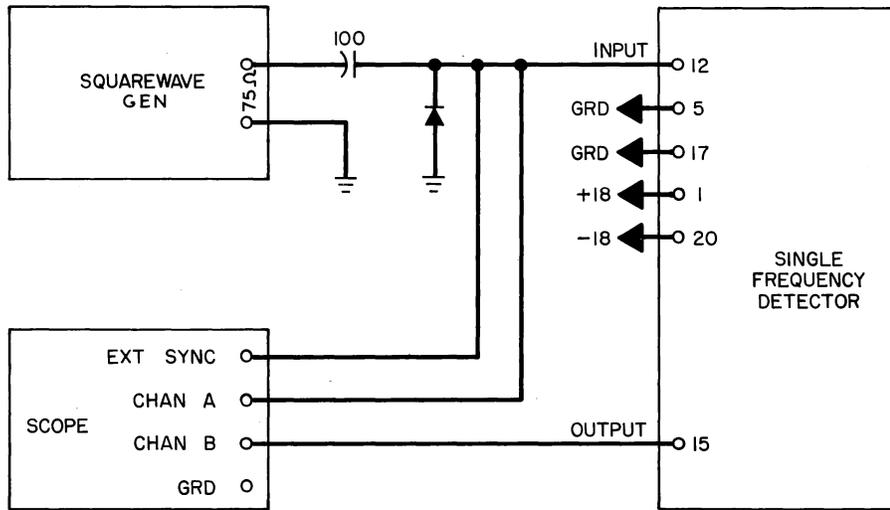
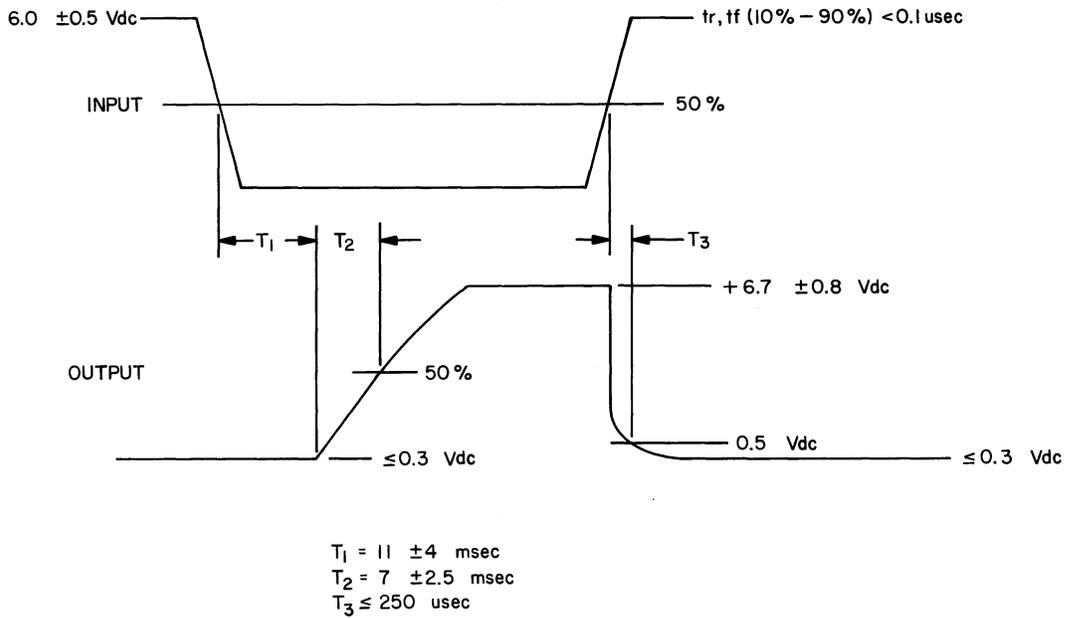

Fig. 13 - (Single Frequency Detector Test)
Fig. 14 - (Single Frequency Detector Test)
(1) Connect the circuit as in the suggested test circuit shown in Fig. 13. Connect $+18.0 \pm 0.5$ volts dc to terminal 1, -18.0 ± 0.5 volts dc to terminal 20, and ground to terminals 5 and 17.
(2) Set the frequency of the square-wave generator to 5 ± 0.5 cps.
(3) The input wave form shall be as specified in Fig. 14.
(4) Set the scope EXT SYNC TRIGGER to the (-) negative position. The output wave form shall be as specified in Fig. 14.
(5) Set the scope EXT SYNC TRIGGER to the (+) positive position. T₃ shall be as specified in Fig. 14.